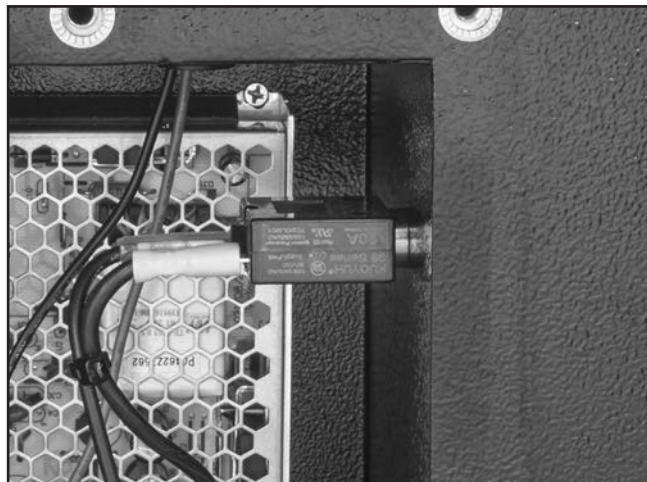

Figure 11. Location of circuit breaker.
9. Open front maintenance door, remove 20A circuit breaker (see **Figure 11**) and replace with 15A circuit breaker.